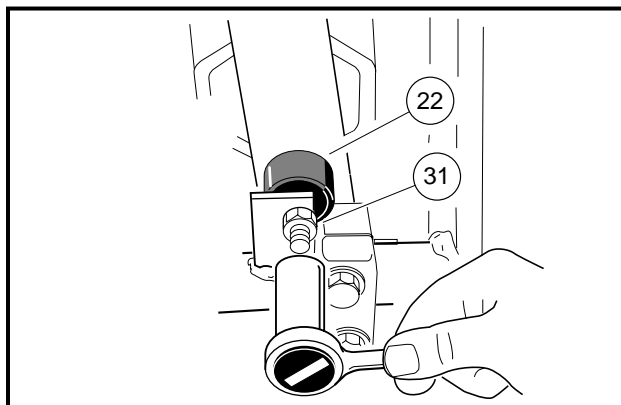
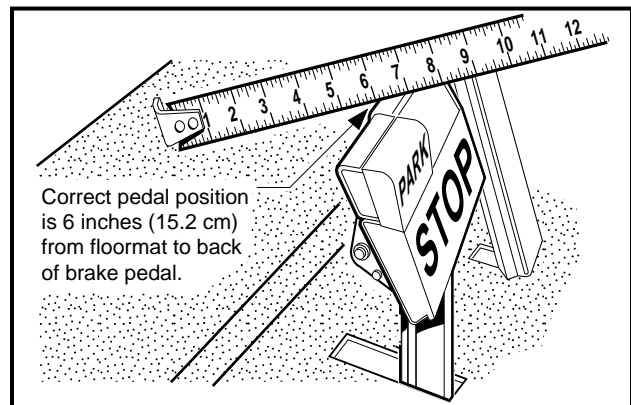

Figure 5-9 Adjust Brake Pedal Height
Figure 5-10 Measure Brake Pedal Height
- 1.3. Loosen the brake stop jam nut (31), then relieve pedal pressure on the stop by pushing down slightly on the pedal. Next, adjust the brake stop bumper (22) up or down (**Figure 5-9, Page 5-8**). Adjusting the bumper upward decreases distance between pedal and floorboard. Adjusting the bumper downward increases distance between pedal and floorboard. Proper brake pedal height is 6 inches (15.2 cm) (**Figure 5-10, Page 5-8**).
- 1.4. Tighten the jam nut (31) to 8 ft-lb (9.5 N-m) (**Figure 5-9, Page 5-8**)